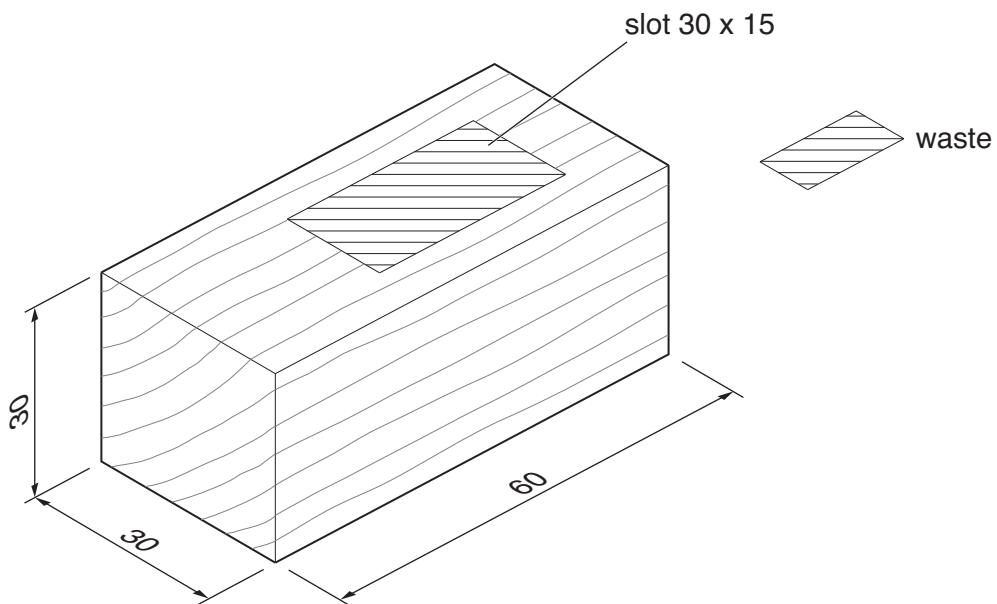

Fig. 4
- (c) Fig. 4 shows the block that will slide up and down the upright part of the educational toy.